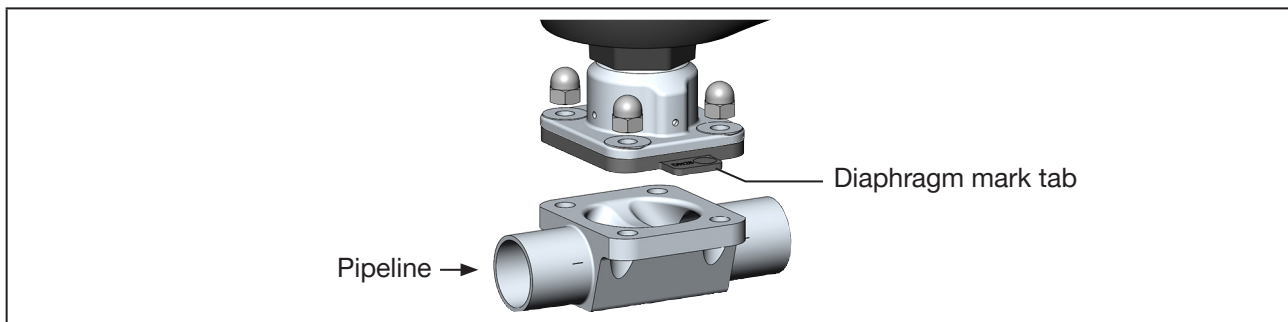

Fig. 25: Aligning the diaphragm (example 2-way body)
→ Align diaphragm. The mark tab of the diaphragm must protrude from the valve body at a right angle to the longitudinal axis of the pipeline (see “Fig. 25”).
- Before installing the actuator, check whether the diaphragm is free of damage and correctly aligned. The mark tab of the diaphragm must protrude from the valve body at a right angle to the longitudinal axis of the pipeline (see “Fig. 25”).